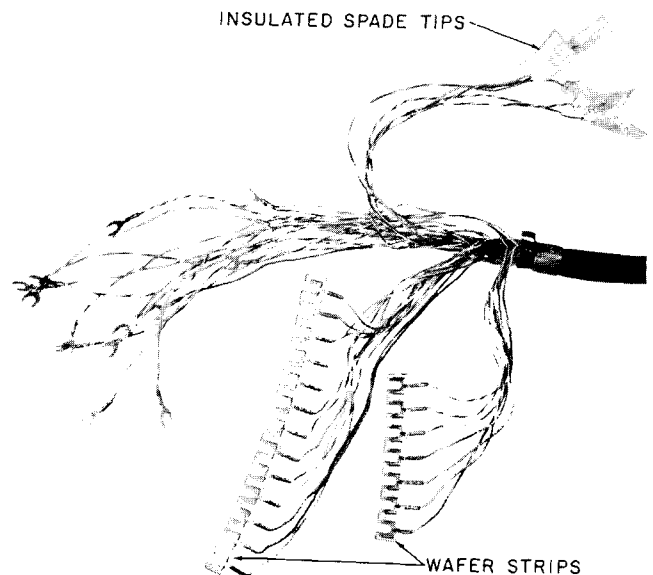

Fig. 2—Slotted Wafer Strip End of Mounting Cord, Late Type
2.05 Mounting cords of later manufacture feature a slotted wafer strip (Fig. 2) to facilitate replacement.